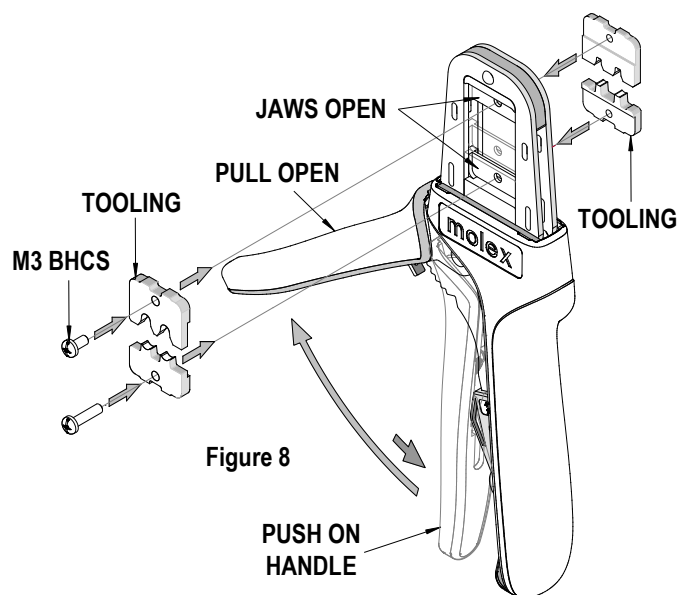

Figure 8
- Flip the upper tooling to the opposite side and replace the M3 BHCS. Make sure the small markings on the front and back of the hand tool frame, match up and are on the outside of the hand tool frame. See Figure 8 and 9.